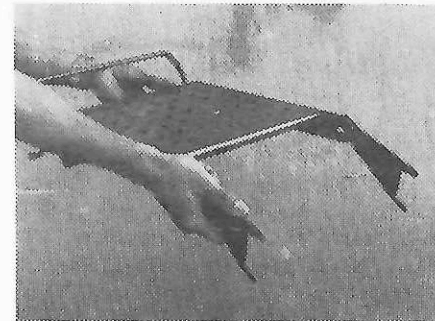

Figure C-6
6. Rotate forked ears on work platform to position indicated, as shown above (FIGURE C-6)